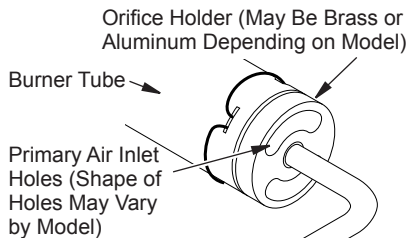

Figure 23 - Orifice Holder On Outlet Burner Tube
2. Inspect burner, pilot and primary air inlet holes on orifice holder for dust and dirt (see Figure 23).